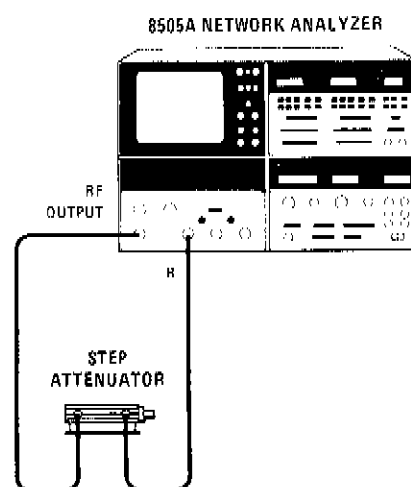

Figure A2-16. Dynamic Range Test Setup
- b. Connect equipment as shown in Figure A2-16.